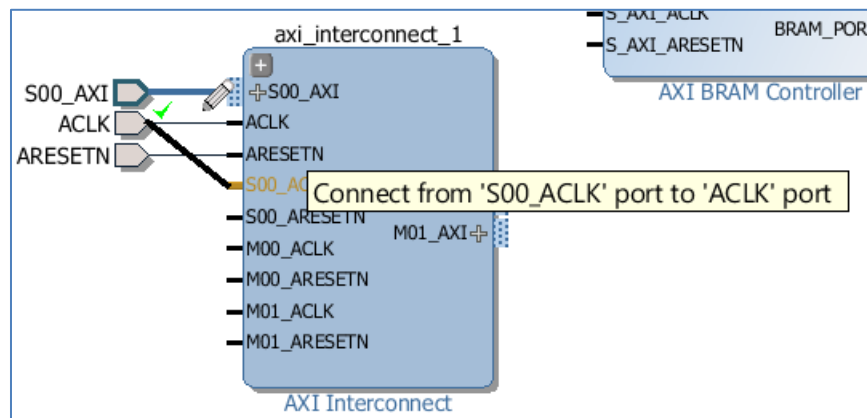

Figure 15: Connect the S00_ACLK pin to the ACLK port
10. **Click and drag** the cursor from the S00_ACLK pin to the ACLK port as shown in Figure 15.
11. **Release the mouse button** and Vivado IP integrator makes a connection between the S00_ACLK pin and the ACLK port, as shown in Figure 15.